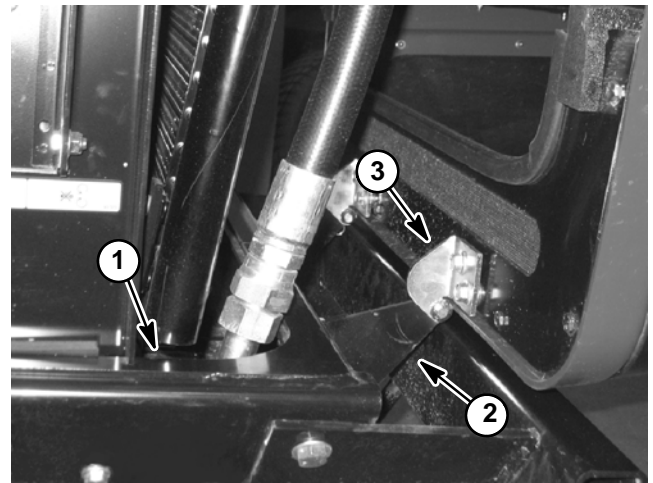

Figure 24
- A. Place shim that is from 3/8" to 7/16" (9.5 to 11.1 mm) thick on top of frame (both RH and LH sides) near the sides of oil cooler (Figs. 24 and 25).